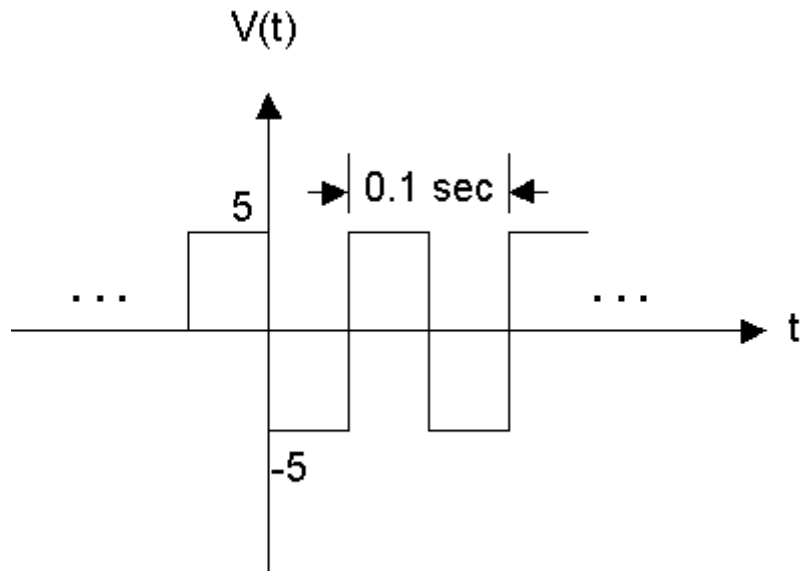
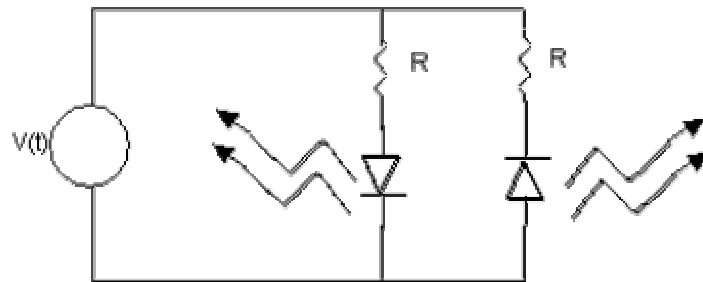

Figure 6. Output from the Tektronix signal generator.
Figure 7. Alternately blinking LED circuit.
10. Configure the Tektronix generator to produce a 10 Hz square wave with  $\pm 5$  volt (10 V peak-to-peak) amplitude at the Hi-level output terminals, as in Figure 6. Verify the voltage level on the oscilloscope. Use this signal to drive the circuit shown in Figure 7. Change the square-wave frequency gradually from 100Hz to 0.5Hz. Change the waveform from square to triangle and sinewave shapes. Comment on your results. In particular, make a little table in your notebook and write down, for each of the three types of waveforms, what is the fastest frequency at which you can still see the LED's blink on and off, and whether they appear to stay on or off when you exceed that frequency.